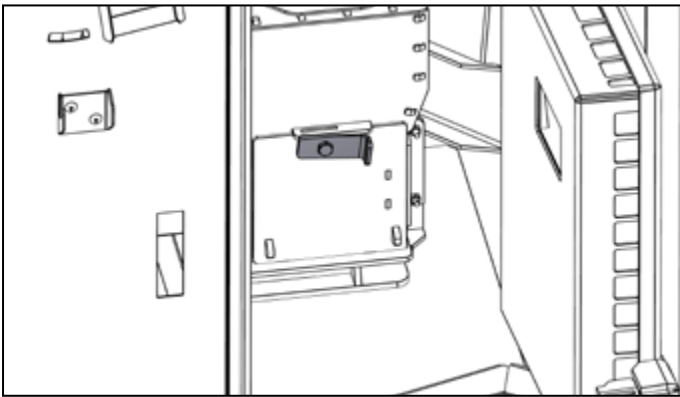

Figure 12-12: Brazier catch
- Using the multi-purpose tool supplied with the boiler, rotate the brazier catch (on the front of the burner) 90° anticlockwise to release it from the upper front of the burner housing. Refer to Figure 12-12.